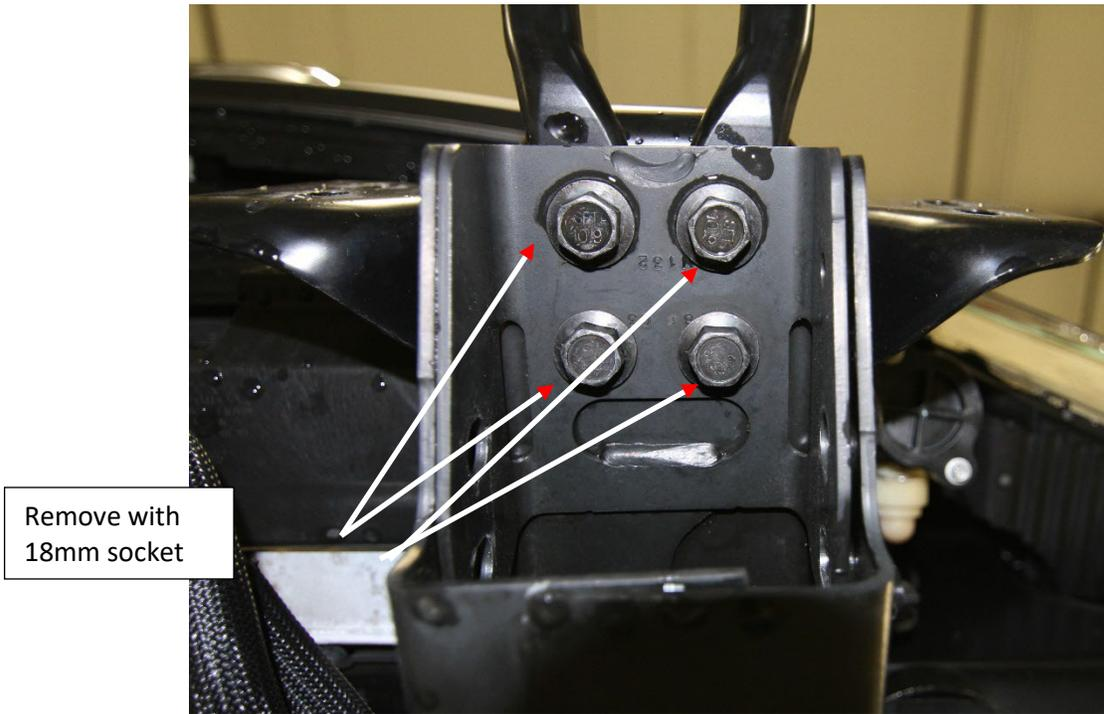

Figure 3
4. Use an 18mm socket to remove the four (4) bolts holding the tow hooks onto the frame. Remove the tow hooks from both sides of the truck. (Fig. 3)